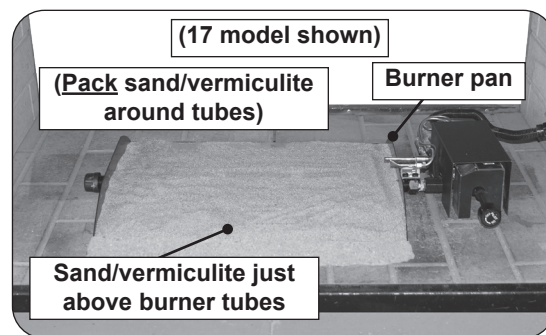

Fig. 21-1 Place sand/vermiculite
1. Partially fill the burner pan with the sand/vermiculite until it rests at a level just above the burner tubes as shown in Fig. 21-1.